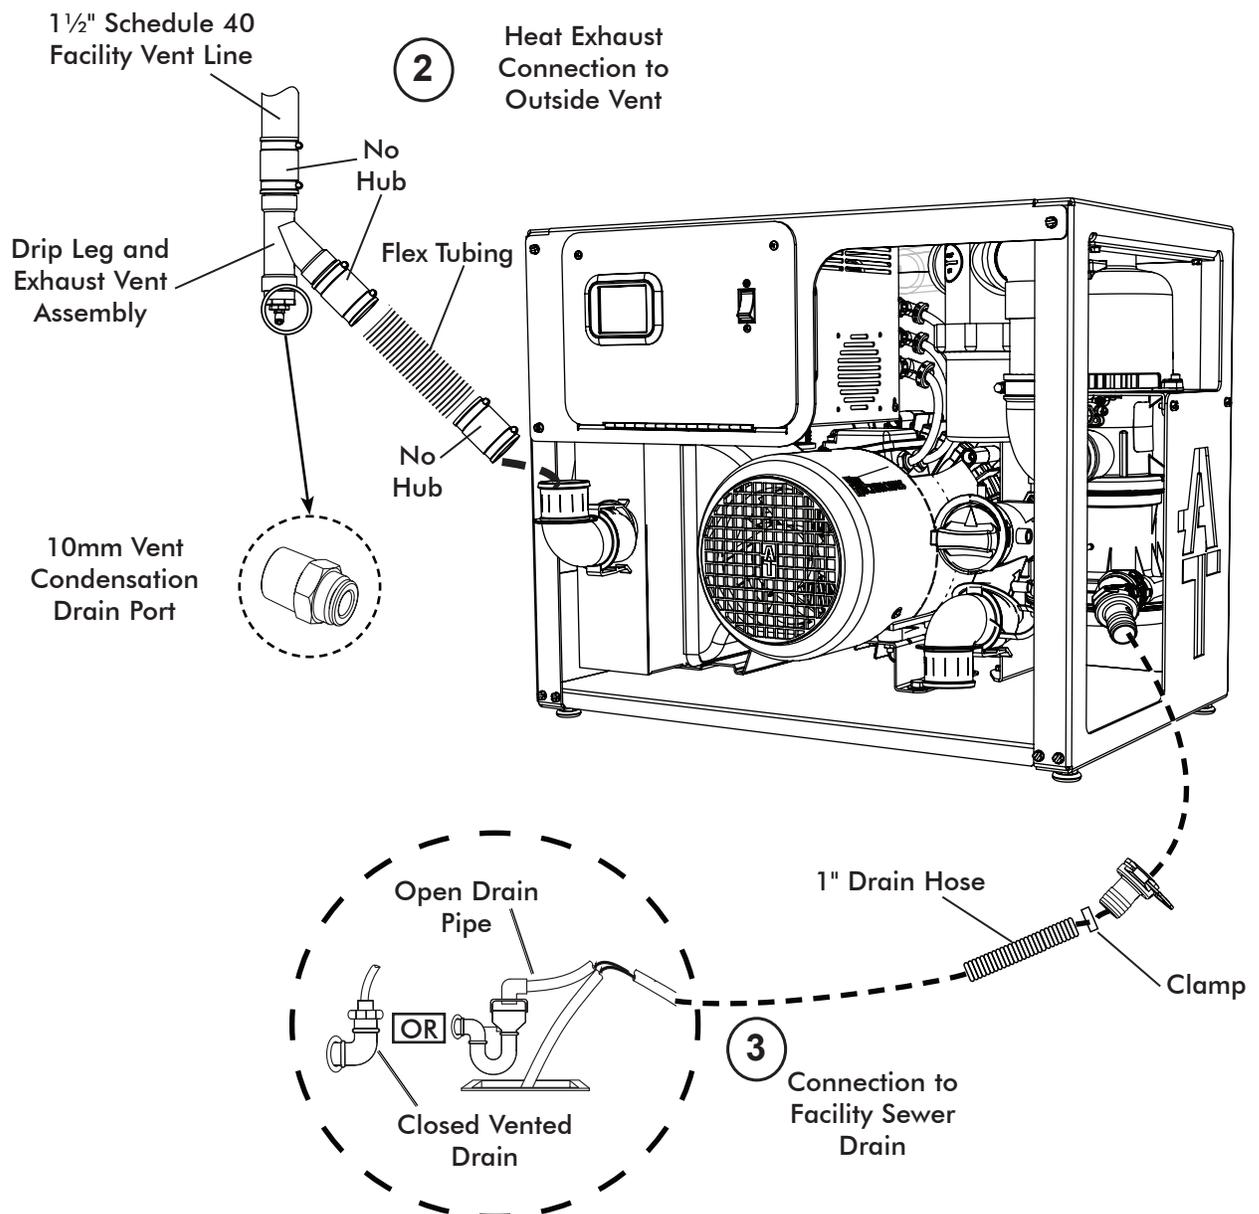
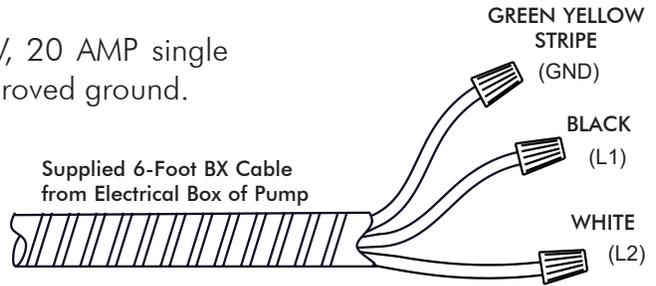

Figure 6. MOJAVE LT Detail Plumbing Connection
Figure 7. MOJAVE LT Power Connection
Installation Layout Space. Figure 6 shows the requirements for the installation of MOJAVE LT. Please note that all units are shipped with leveling feet set to lowest position. Heights can be increased by 1 inch by adjusting the leveling feet. Refer to Figures 7 and 8 for connection details.
- B. **SEWER DRAIN** - Provide a drain for the removal of waste liquids from the Air/Water Separator assembly. Use an open drain pipe (1 ½ inch P-Trap with 1 inch air gap or floor sink) or a closed vented drain. See Figure 6.
MOJAVE LT Connection Procedure. Using industry standard techniques, make the three connections between the LT with supplied components from accessory kits Refer to Figure 7 for the connection diagram and perform the following procedure.
1. **Treatment Room Suction Line to Pump Inlet Connection.** Refer to Figure 7, item (1) .
2. **Heat Exhaust Connection.** Refer to Figure 7, item (2) for the location of the vent hose connection at the pump heat exchanger output and the facility vent line. Make the heat exhaust connection by performing the following procedure.